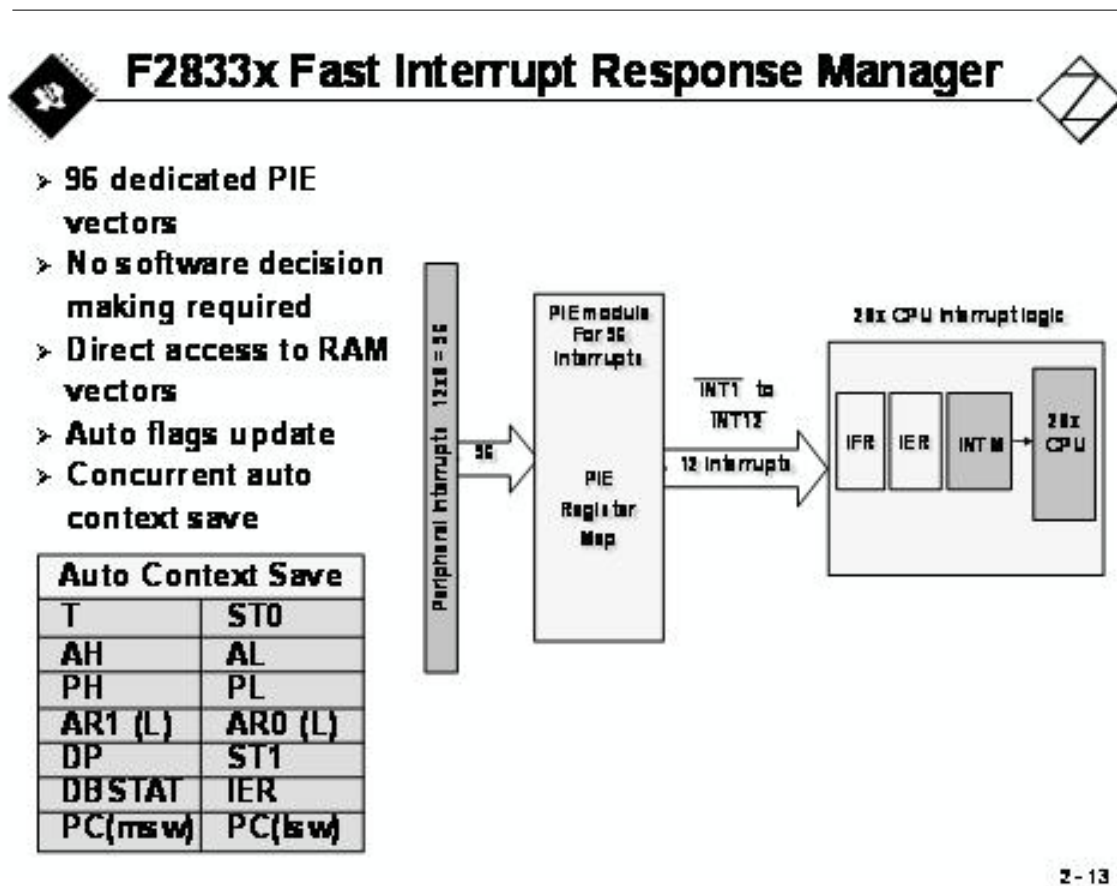

Figure 13
The auto context save loads 14 important CPU registers, as shown in Figure 13 above, into a stack memory, which is pointed to by a stack pointer (SP) register. The stack is part of the data memory and must reside in the lower 64K words of data memory.